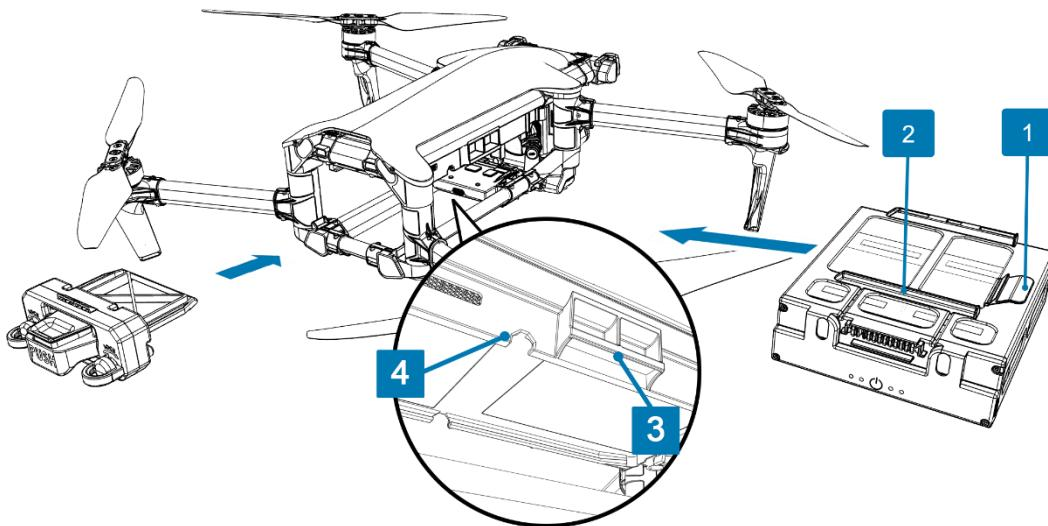

Figure 16: ANAFI UKR XLR battery insertion
2. Position the battery's slide rail, located on the top face of the battery (*No. 2 in Figure 16*), into the drone's corresponding slide groove (*No. 4 in Figure 16*).
4. Ensure that the latch (*No. 1 in Figure 16*) is correctly seated in the latch receptor (*No. 3 in Figure 16*).